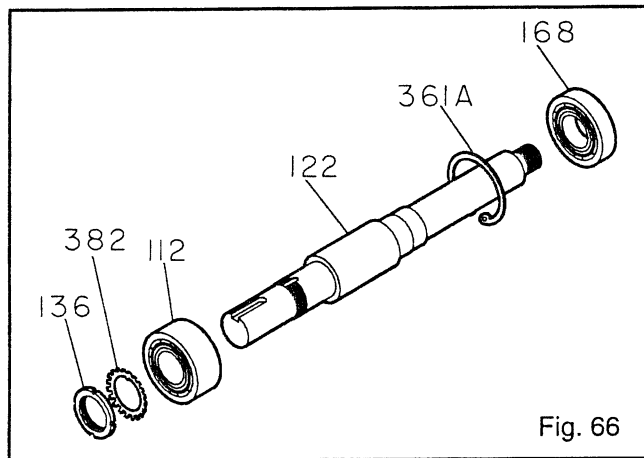

Fig. 66
- Remove bearing locknut (136) and bearing lock washer (382) (Fig. 66).